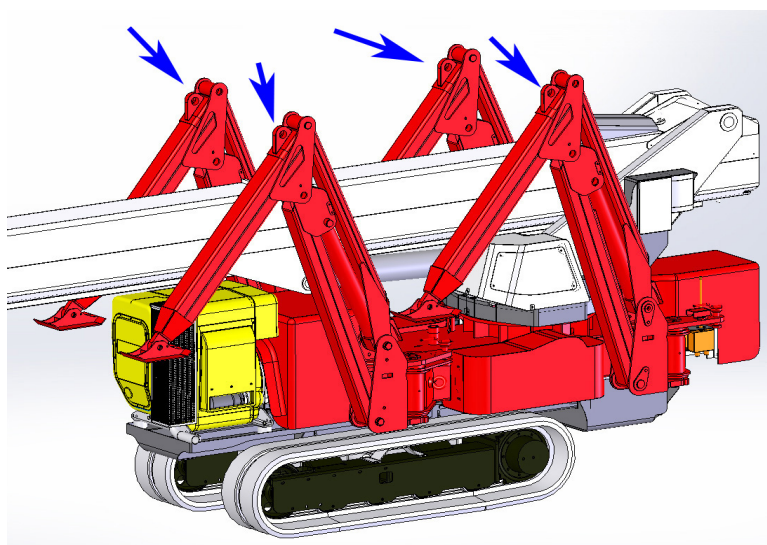

Fig. 2.14
- using a 4-arms harness of proper capacity and lenght, fix the hooks in the holes on top of the stabilizers (Fig. 2.14 and 2.14a).